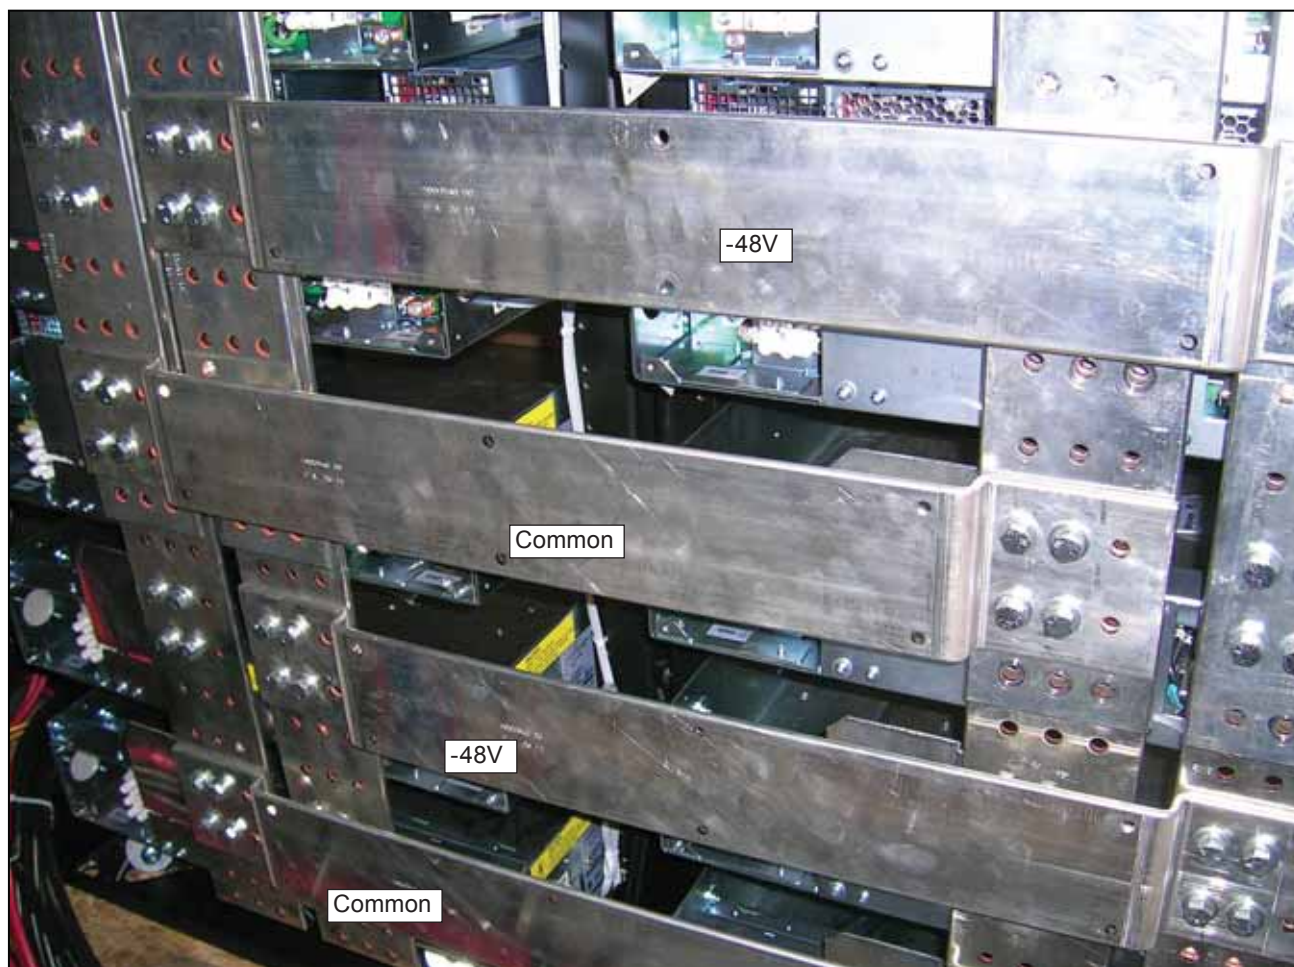

Figure 20 — Inter-bay bus work
8. Repeat the procedure for the remaining three inter-bay buses, continuing from top to bottom. Figure 20 shows the completed bus work.